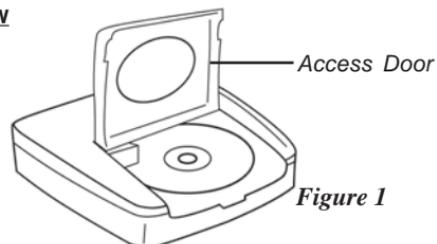

Figure 1
- Access Door - For loading and removing the disc and ribbon cartridge. (Refer to Figure 1)